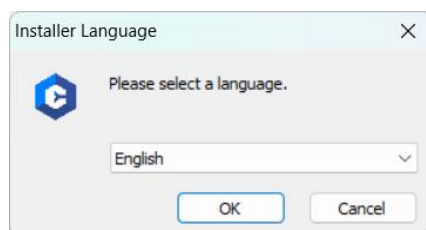

Figure 4-3 Select Language
1. Double click the 3DeVOK Studio V5.1.0.exe, select the language and click OK, as shown in Figure 4-3.